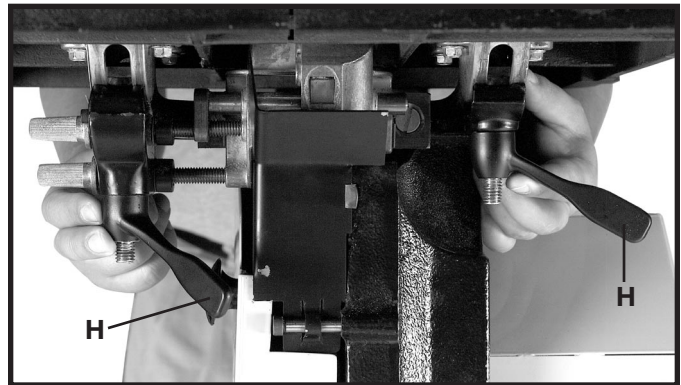

Fig. 29
3. Place the table handle (H) on each stud as shown in Fig. 29. **NOTE: MAKE SURE THE TABLE HANDLES ARE POSITIONED AS SHOWN IN FIG. 29, SO THAT THE TABLE CAN BE TIGHTENED AND LOOSENED.**